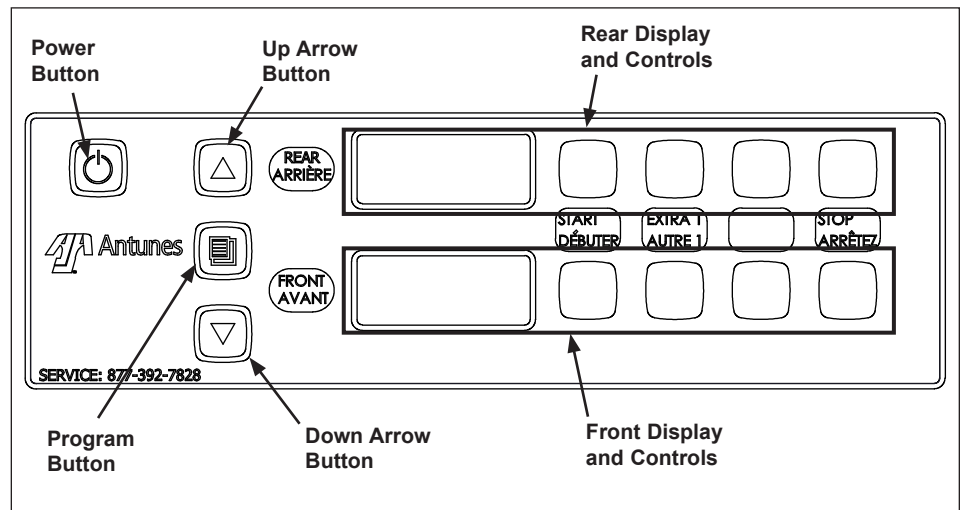

Figure 4. Operating Controls
Refer to Figure 4 to familiarize yourself with the control interface.
5. Crack the eggs into the Egg Rings from Front to Back, right to Left as shown in Figure 4.
13. Raise the Egg Rack completely off the eggs and remove the eggs starting with the **FIRST** egg added (Figure 4). Continue removing the eggs in the order they were added until all eggs have been removed.